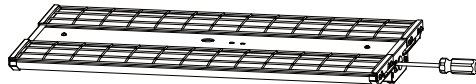

Figure 8
- Step1. Mount the wire guard on the fixture with screws (Figure 8)